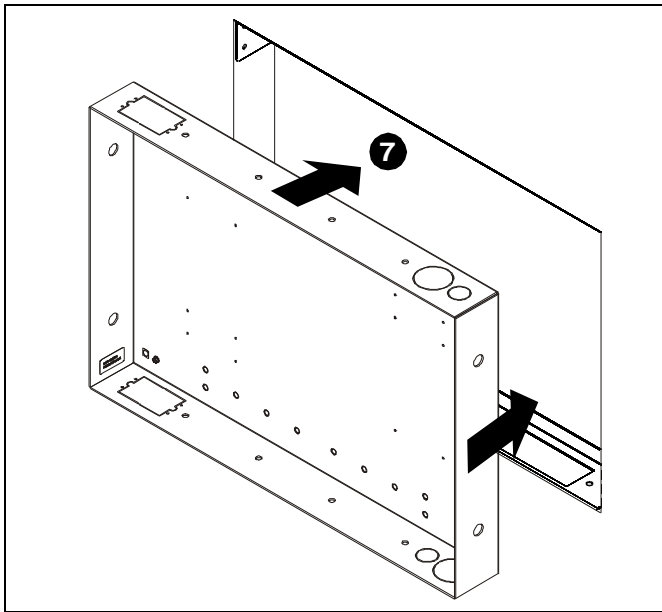

Figure 7
7. Orient PAC-502 enclosure following the installation instructions provided with the PAC-502 and slide enclosure into opening between upper and lower brackets (A). (See Figure 7)